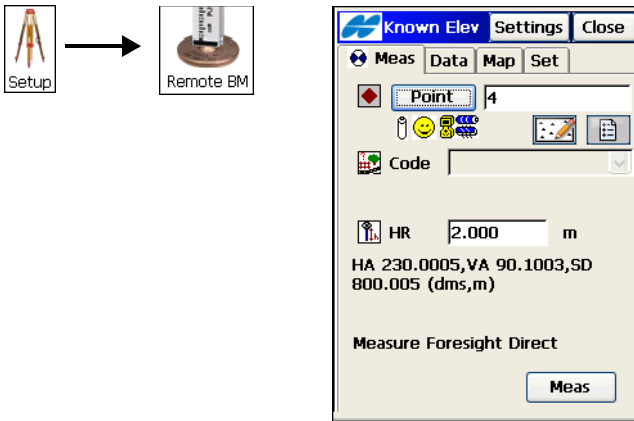

Figure 8-43. Unknown Elevation Screen
3. On the **Known Elev** screen (Figure 8-43 on page 8-41), select the point of known coordinates from the map or from the list.